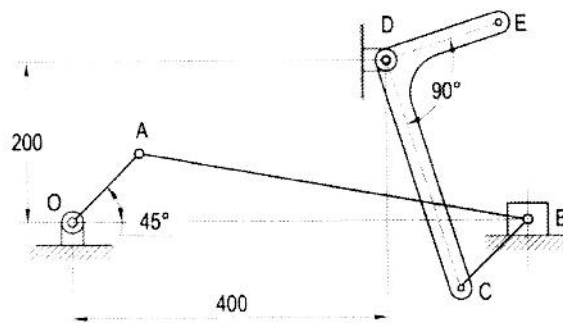

Figure 4
6. The various dimensions of the mechanism, as shown in figure 4, are OA=120mm, AB=500mm, BC=120mm, CD=300mm and DE=150mm. the crank OA rotates at 150 rpm in CCW direction. The bell crank lever is DE. Determine the absolute velocity of point E. Use graphical method.